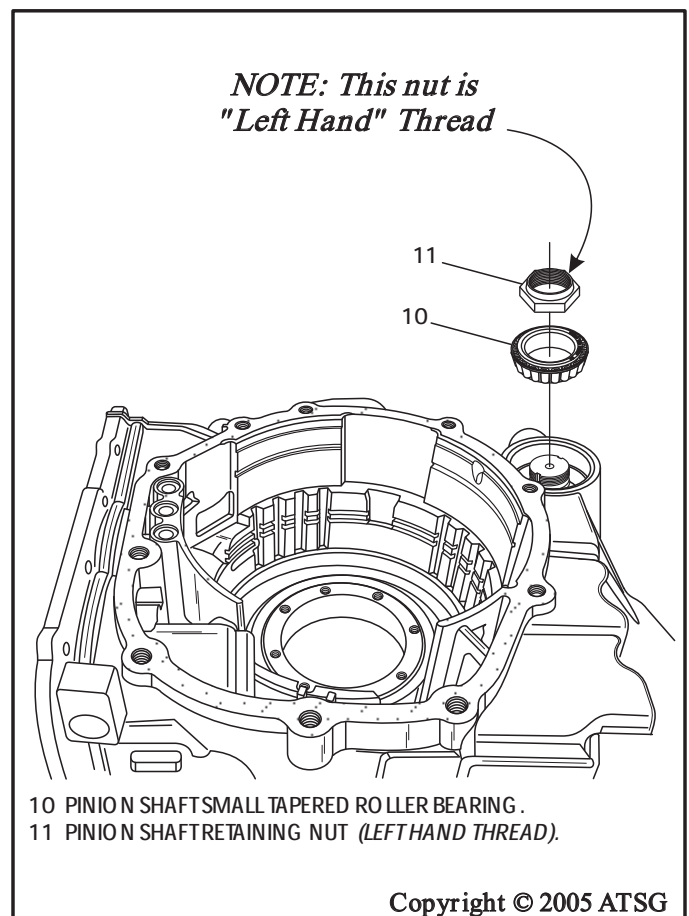

Figure 152
4. Rotate transaxle case so that rear is facing up, as shown in Figure 152, and ensure that small bearing cup and spacer are still in place.
5. Install the small tapered roller bearing onto pinion shaft, as shown in Figure 152.
6. Install a **new** pinion shaft nut, as shown in Figure 152.